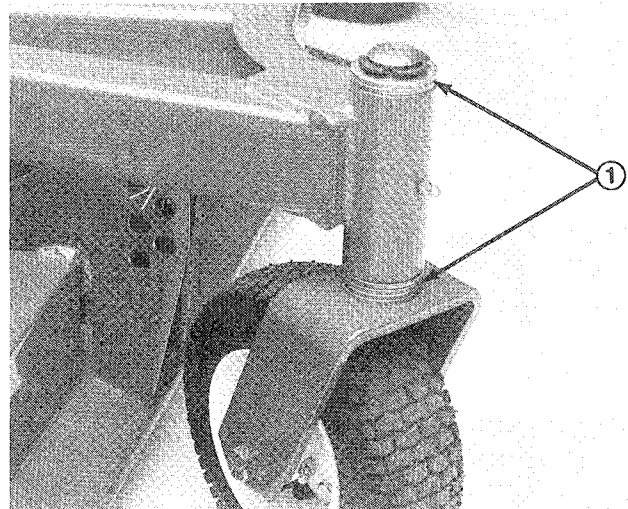
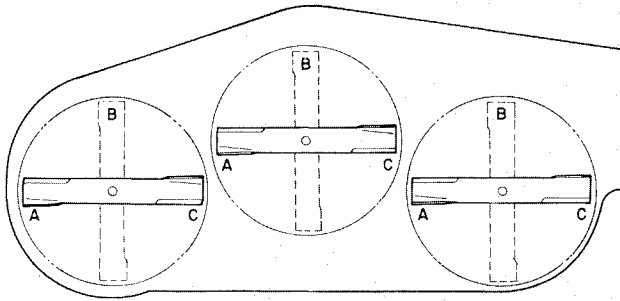
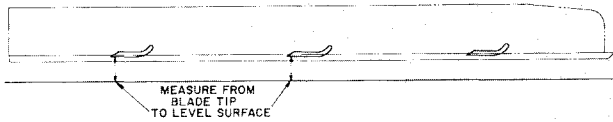

Figure 11
Figure 16
Figure 17
4. Insert pin punch into top or bottom of mounting tube and drive bushing out of tube (Fig. 11).
4. Position all three blades in the "A" position (Fig. 11) and measure from level surface to the bottom of the tip end of each blade (Fig. 17).
5. Note measurement attained at "A", rotate blades to "B" position (Fig. 16), measure distance of all blades to level surface and note dimensions (Fig. 17).
6. Rotate blades to "C" position, measure and note distance measured (Fig. 16, 17).